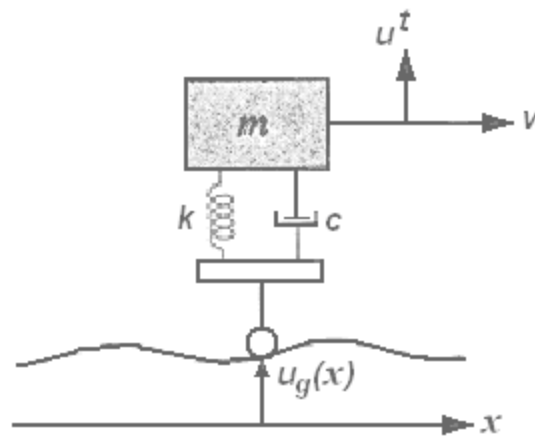

Figure 9:
4. An automobile is crudely idealized as a lumped mass m supported on a spring-damper system as shown in figure 9. The automobile travels at constant speed u over a road whose roughness is known as a function of position along the road. Derive the equation of motion. [16]